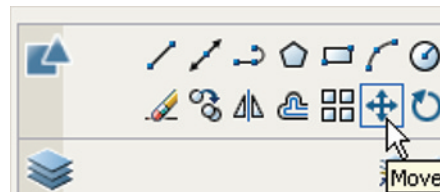

Fig. 5.24 The **Move** tool icon from the **2D Draw** control panel
2. Call **Move** – either *click* the **Move** tool icon in the **Modify** toolbar, or *pick* **Move** from the **2D Draw** control panel (Fig. 5.24), or *pick* **Move** from the **Modify** drop-down menu, or *pick* the **Move** tool icon from the **Modify** toolbar, or *enter* **m** or **move** at the command line, which shows: